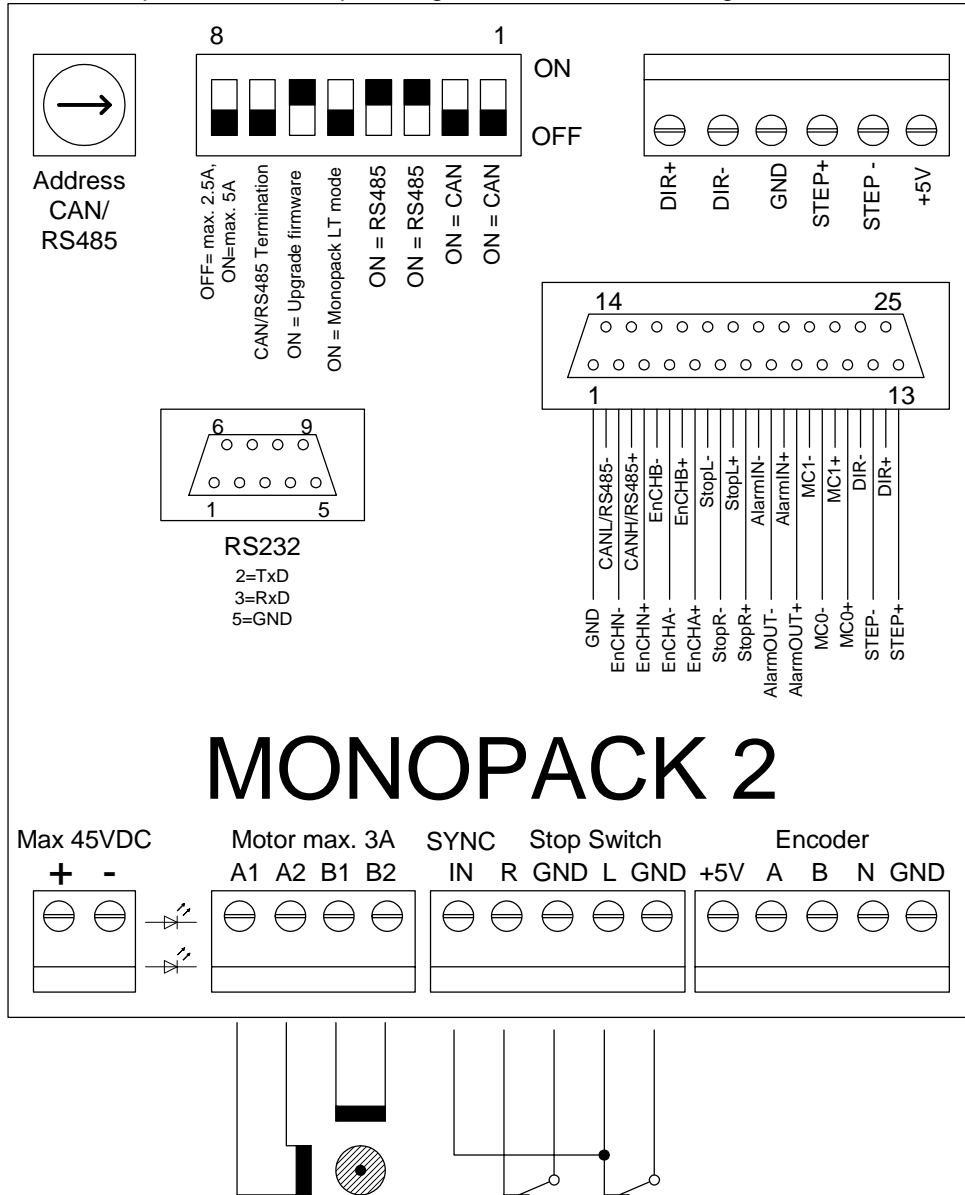
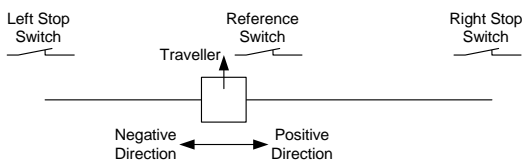

Figure 2.1: Connectors and pin assignments
Figure 2.2: A linear drive
The connectors of the Monopack 2 and their pin assignments are shown in Figure 2.1.
- Combining the reference switch with one stop switch: Connect one switch to the reference switch input and to the desired stop switch input, as shown in Figure 2.1. If only one stop switch is to be used connect the other stop switch input to ground.
In a linear drive (Figure 2.2), the traveller moves between two end points. It is not necessarily driven by a linear stepper motor. In most cases, stop switches are used at the end points, and also a reference switch is used for finding the reference point. The reference switch can also be combined with one of the end switches (as shown in Figure 2.1).